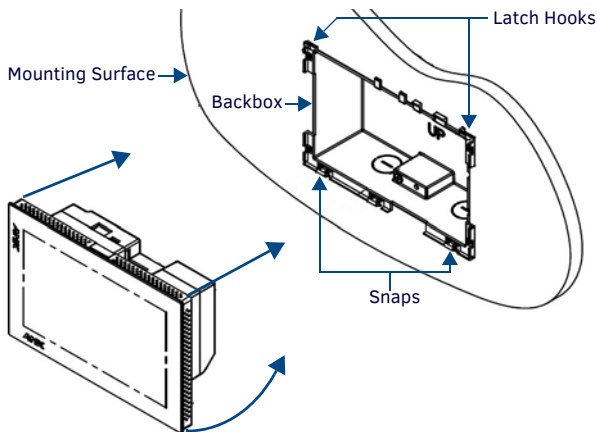

FIG. 5 INSTALLING THE MXD-700
- Latch the panel onto the top hooks on the Backbox and push it down (Landscape) onto the bottom snaps or on the left side and push it to the right (Portrait) (FIG. 5). Press gently but firmly on the ends until the snaps "click" to lock it down.